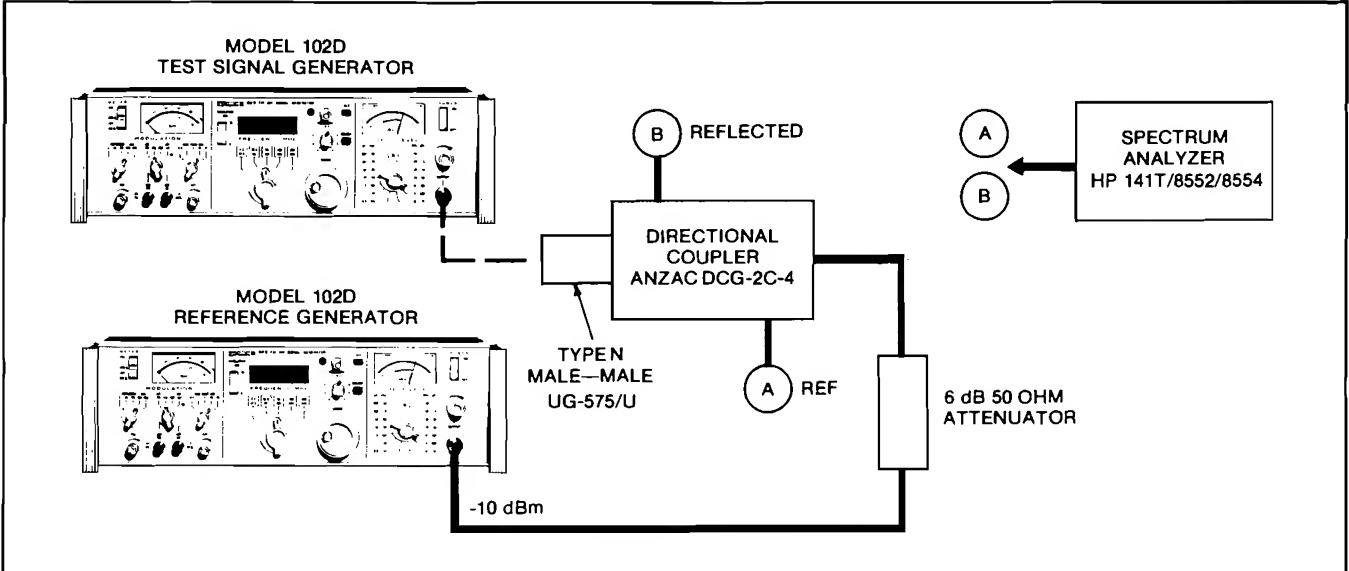

Figure 2-23 Output Impedance Check, Test Setup
- a. Connect the Model 102D and test equipment as shown in Figure 2-23.
- c. Connect the spectrum analyzer to point A in Figure 2-23. Adjust the spectrum analyzer controls as required to align the peak of the reference signal generator signal with the -30 dB graticule in the log display mode.
- d. Connect the spectrum analyzer to point B in Figure 2-23 and observe the amplitude of the reference generator signal on the spectrum analyzer display. *The return loss, which is the difference between the amplitude observed in this step and the -30 dB amplitude of step c, should be at least 14 dB.*